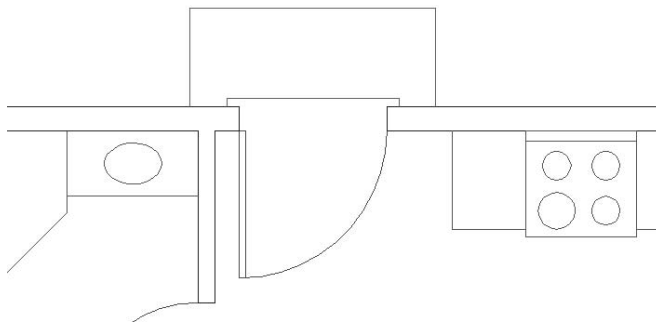

FIGURE 7.8: The result of the zoom
2. Click the Zoom Window button, and make a window around the back door area, including plenty of room inside and outside the opening so that you can see the door3_0 block as it is being inserted. You will be zoomed into a close view of the back door (see Figure 7.8).
Figure 7.9b will look exactly like Figure 7.8.